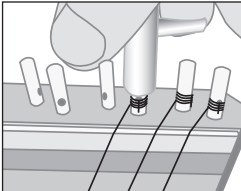

Figure 8
16. Bend the end with the pliers and turn the tuning post until moderately tight. (Fig. 8)